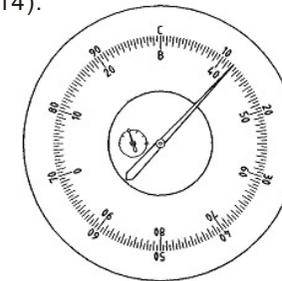

Figure 14
2.4 As per the loading direction on the loading label, pull the loading handle (2) towards the front of machine body slowly (around 4 seconds) up to the left-handed limit position (see Fig-9), then the main test force has been applied and the longer pointer will rotate (see Fig 14).